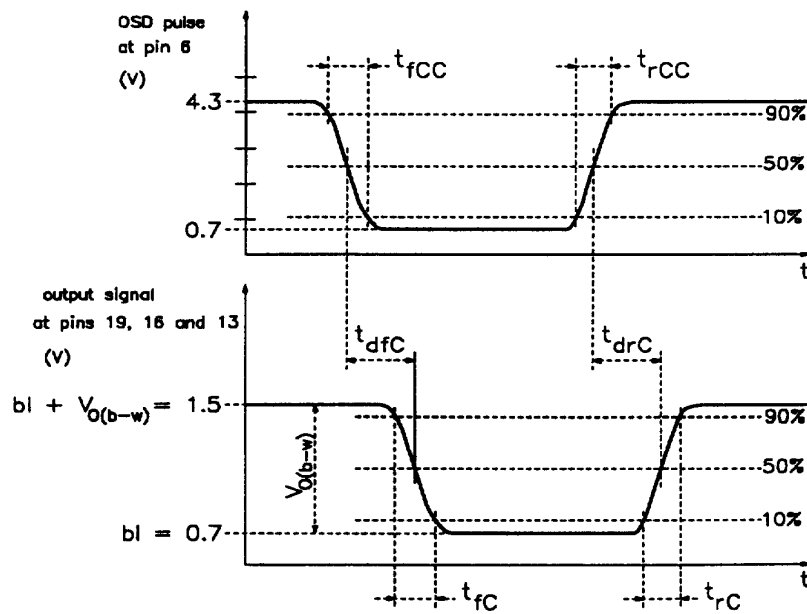

Fig.6 Typical OSD fast blanking input/output.
5. Typical step in contrast voltage and response at signal outputs for nominal input signal $V_{I(b-w)} = 0.7 \text{ V}$. Typical OSD fast blanking input/output see Fig.6.